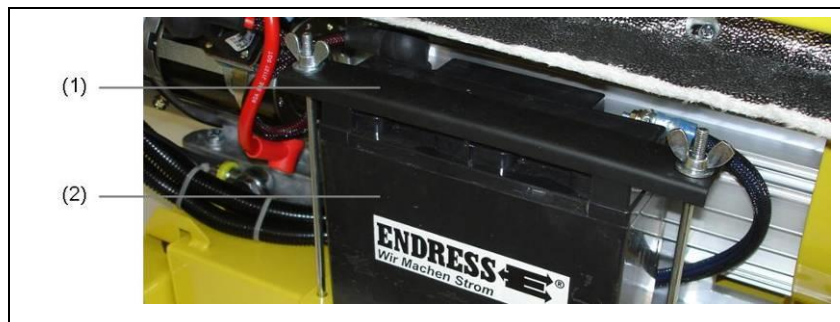

Fig. 6-3: Replacing the battery
1. Unscrew the battery holder (*Fig. 6-3-(1)*).
2. Remove the battery (*Fig. 6-3-(2)*) from the battery compartment.
7. Put the battery holder (*Fig. 6-3-(1)*) back on.